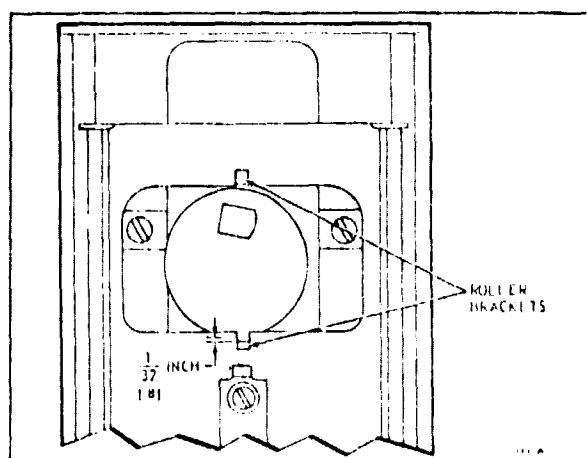

FIG. 6—FOR TIGHT CLOSE-OFF, THE ROLLER BRACKET ON THE LINKAGE MUST BE DEPRESSED AT LEAST  $1/32$  INCH [.8 MM] AT THE END OF THE MOTOR'S STROKE.
3. The valve must close off tightly at the bottom of its stroke (both ends of stroke for 3-way valve). Check for at least  $1/32$  [.8 mm] deflection of the roller bracket in closed position (Fig. 6).